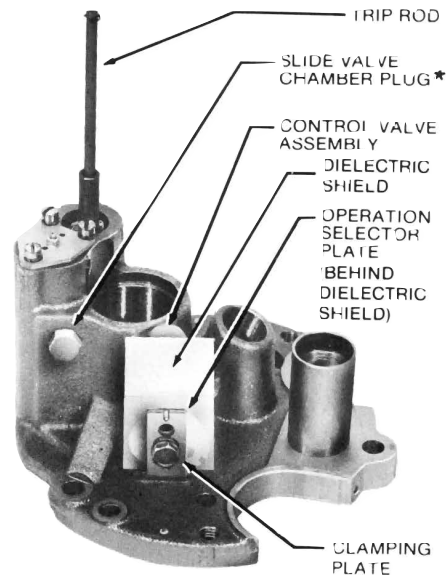

**Figure 18. Dismantling hydraulic mechanism**
1. Remove hexnut, lockwasher and flatwasher from the frame shoe at the hydraulic frame and then remove tie bolts (Figure 18).